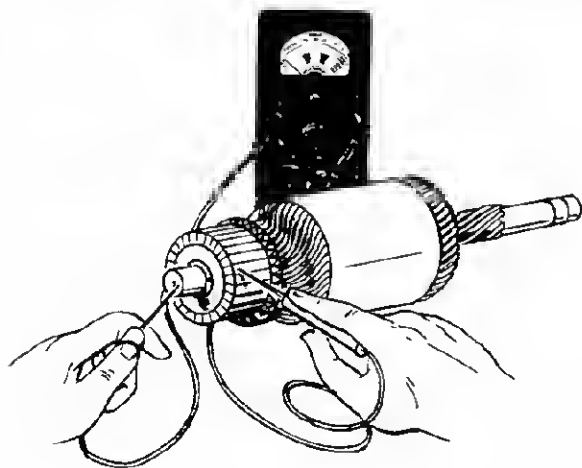

FIGURE 35. TEST FOR GROUNDED ARMATURE
**Testing Armature for Grounds:** Touch armature shaft or core and the end of each commutator bar with a pair of ohmmeter leads (Figure 35). If the ohmmeter reading is low, it indicates a grounded armature. Replace a grounded armature.